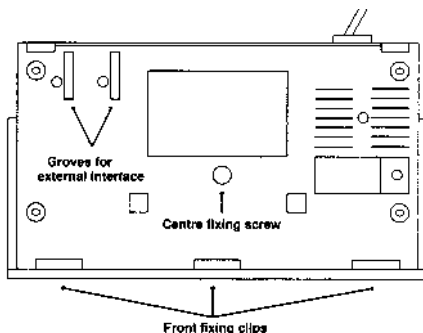

Figure 2. The underside of the A3000
4. Locate and undo the centre fixing screw shown in figure 2. It is not necessary to remove this totally, but it must be loosened enough to free the top cover.
7. Turn the computer upside down again and release the three front clips (figure 2) by inserting a flat-bladed screwdriver behind each clip and twisting it. If necessary, push the top cover up slightly to stop the clips from re-engaging.
4. Take the interface card unit and slide the flange into the two grooves on the underside of the computer. These can be seen in figure 2.